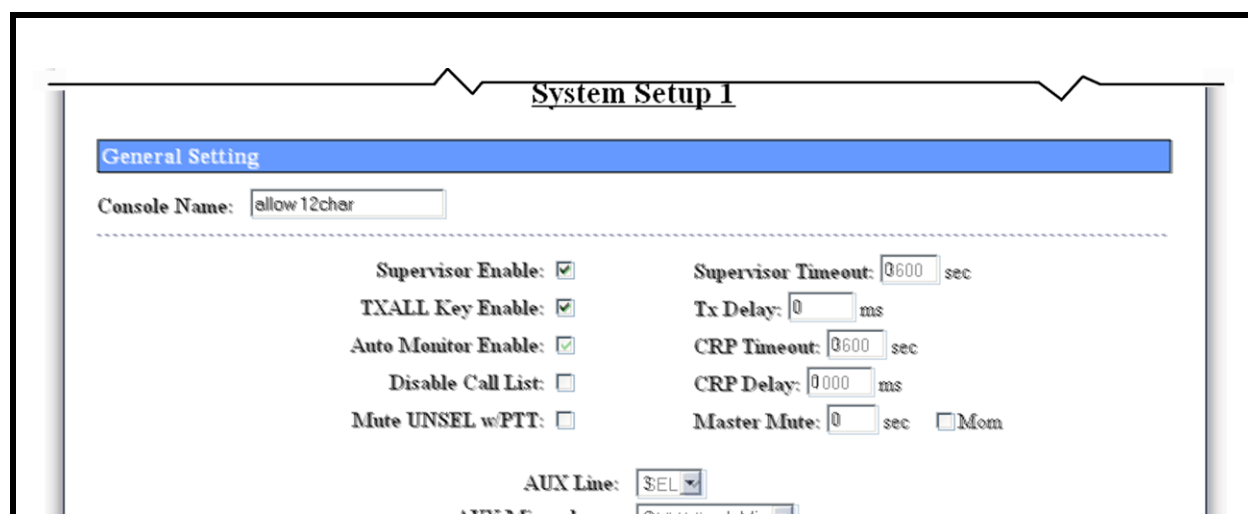

FIGURE 66. System Setup 2 (View 1)
The **System Setup 2** window, shown in Figure 66, and Figure 67, is used to configure the four (4) alert tones and eight (8) softkey commands for the console. Each of the options on this window are discussed below.